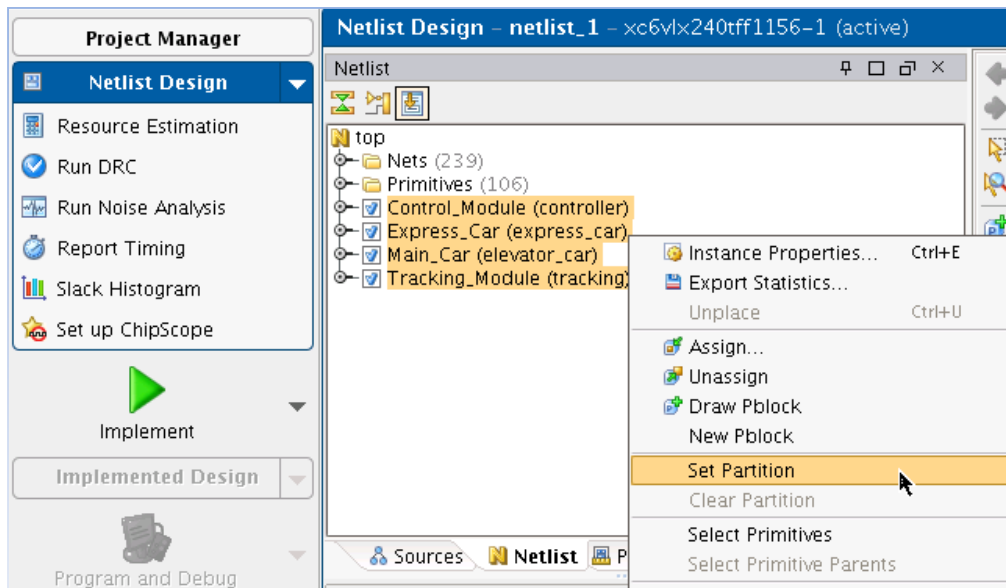

Figure 8: Setting Partitions in PlanAhead
3. Select the module instances that should be partitioned, right-click and select **Set Partition** from the popup menu (see Figure 8).